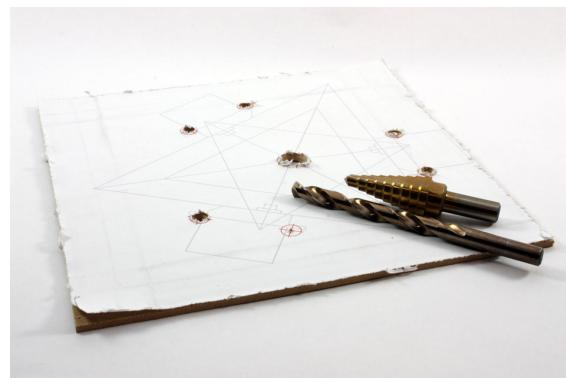

Figure 13-13 Drilling the top platform
10. As with the end effector, drill out the holes indicated on the top platform template (Figure 13-13).